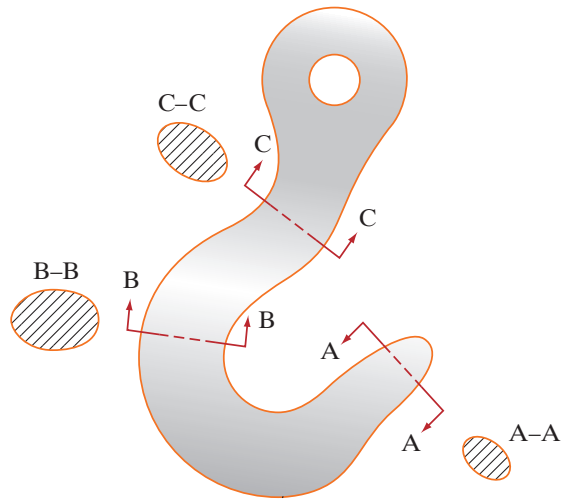

FIGURE 16.17
- Removed sections are similar to rotated sections, except instead of drawing the rotated view on the view itself, removed sections are shown adjacent to the view. They may be used for objects with a variable cross section, and generally many cuts through the section are shown. It is important to note that the cutting planes must be properly marked, as shown in Figure 16.17.